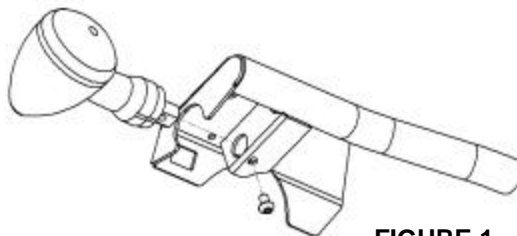

FIGURE 1
1. Remove (2) Phillip head screws from headlight and set aside. Remove headlight from housing, unplug and set aside.
2. Unplug turn signals inside headlight housing. Remove (2) M8 button head bolts under turn signal bar and remove assembly. Remove Phillips screw and turn signal from left side mount. Place your new Cobra lightbar on protective surface and install turn signal and screw as in Figure 1. Repeat on right side
8. Reinstall the headlight with (2) Phillips screws removed in Step 1.